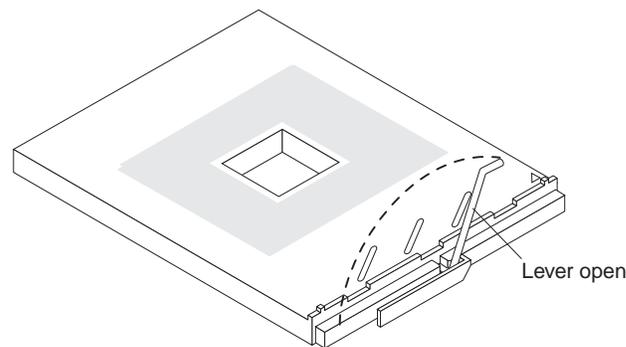

Figure 13. Microprocessor locking lever fully open
- Attention:** You must ensure that the locking lever on the microprocessor socket is in the fully open position before you insert the microprocessor in the socket. Failure to do so might result in permanent damage to the microprocessor, microprocessor socket, and SMP expansion board. See Figure 13 on page 17.